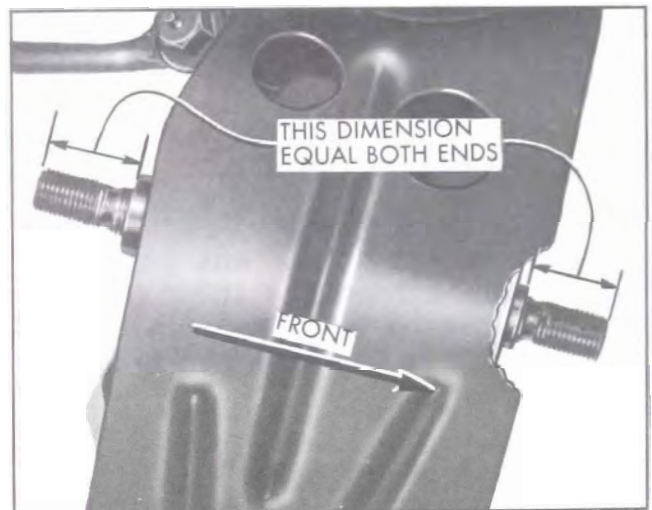

Figure 7-19—Lower Control Arm Shaft Installation
6. Thread shaft into front suspension cross member until the shaft extends an equal distance from front and rear of front suspension cross member. This distance is approximately 1-11/16"; however, it is necessary to measure and exactly position shaft. See Figure 7-19.